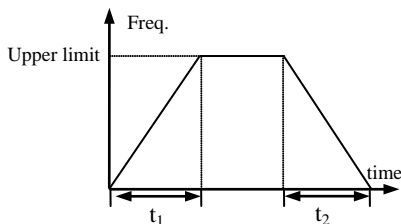

Fig.6-4 Linear Acc/Dec
**0:** Linear Acc/Dec. Output frequency increases or decreases as constant slope shown as Fig.6-4.